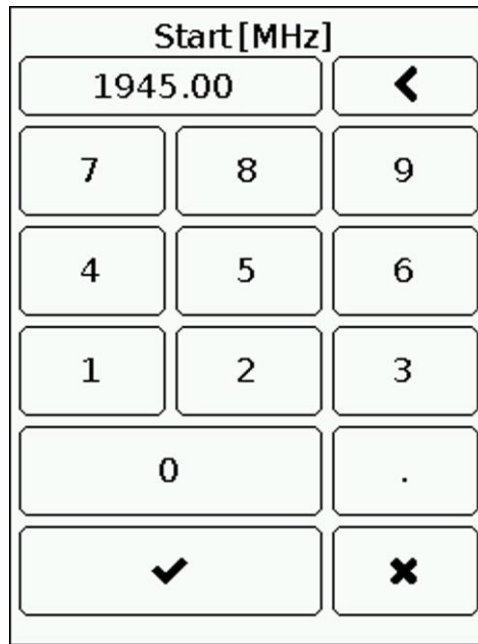

Figure 8.3.2-Entering the initial frequency of the test range
8.3.3. Setting each of the parameters is performed by entering a numeric value in the opened submenu, as in figure 8.3.2. Enter a numeric frequency value and press ✓ (**Data input**). To delete incorrect or previously entered values, click < (**Delete**). To refuse to enter a value, press × (**Cancel**). *In our example, in figure 8.3.2, the initial frequency of 1945.00 MHz of the test range is set.*